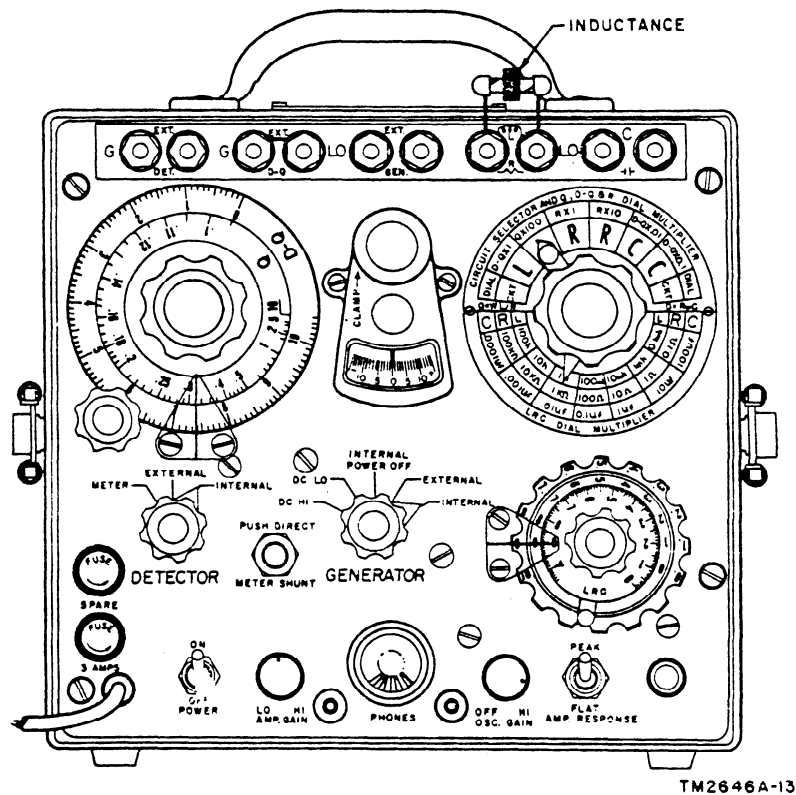

Figure 12. Bridge controls set for measurement of inductors with storage factors (9.5 ' 1,000).
*Example 2:* The settings of the controls in figure 12 are for the final balance positions of an inductor that has an inductance of 9.99 henrys. Read and interpret the control readings as follows:
*Example 4:* The settings of the controls that are shown in figure 12 are for the final balance positions of an inductor that has a storage factor (Q) of 32. The controls read as in example 2 above.